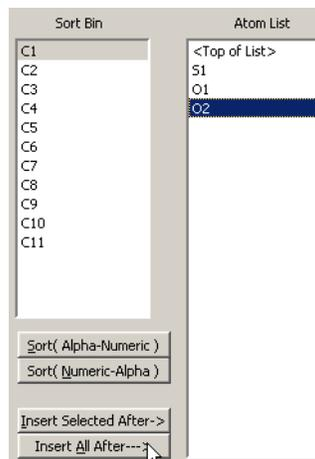

Figure 9.35 – Sorted atoms with "insert after" atom (O2) selected.
4. Highlight O2 and click **Insert All After** as in Figure 9.35.